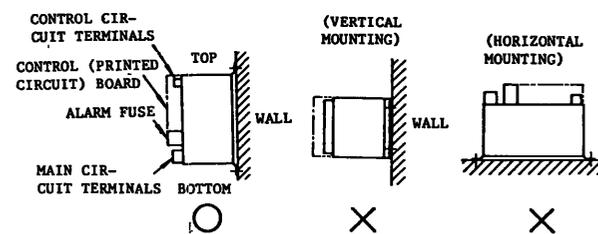

Fig. 3 Mounting Direction of Servopack
(1) Direction
Mount the unit vertically on the wall using the mounting holes (4) on the base plate, with main terminals at the bottom. (Fig. 3)